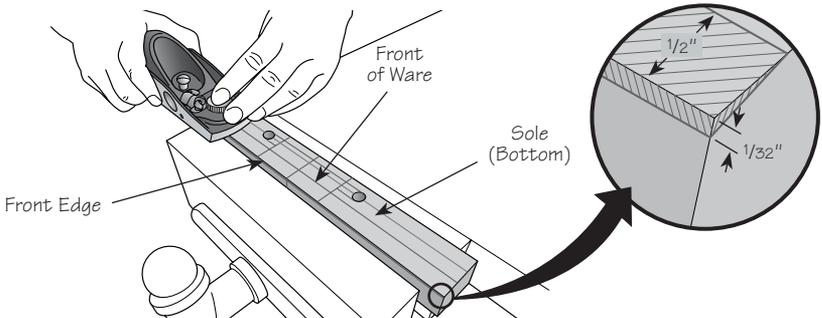

**Figure 6: Mark the back and front edges of the ware.**
6. Remove the blade and the adjustment thumb wheels. Using a square, extend the straight lines that were scored along the sides of the blade to the back edge of the blank with a marking knife, then down the back side of the blank, as shown in **Figure 6**. These lines represent the outside edges of the ware (the area through which the shavings pass when the tool is in use) that will be cut into the stock.
Mark the back and front edges of the ware, score a horizontal line  $\frac{1}{8}$ " down from the top on the back side of the spokeshave, and another horizontal line on the bottom  $\frac{1}{2}$ " from the front edge, as shown in **Figure 6**.